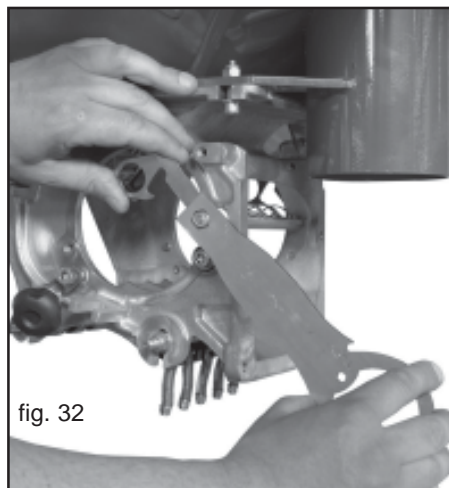

fig. 32
- 3) Loosen the M8 nuts (Fig. 32) using the supplied multi-purpose wrench.